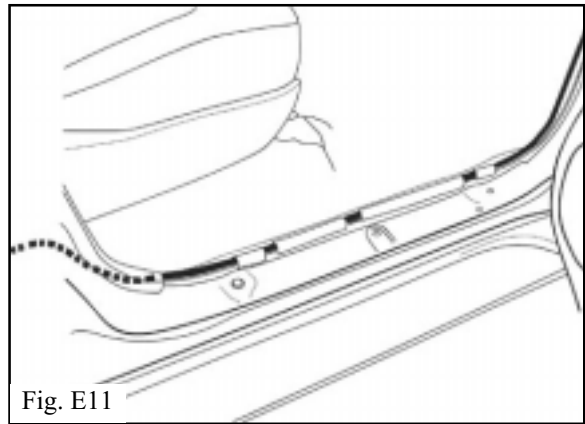
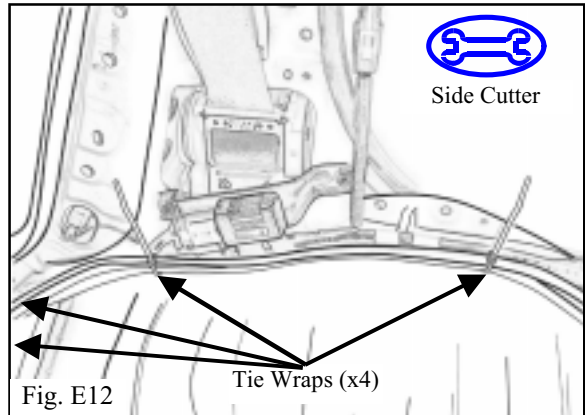

Fig. E11
Fig. E12
- vii. Route the power and video signal harnesses under carpet along factory installed harness in the right front and rear door scuff plate location to the rear wheel house. Tie wrap at white tape locations. (Fig. E11)
- (1) Cut excess from tie wraps as they are installed using side cutters.
- x. Tie wrap all harnesses at the four (4) designated (white) locations to factory harness. (Fig. E12)